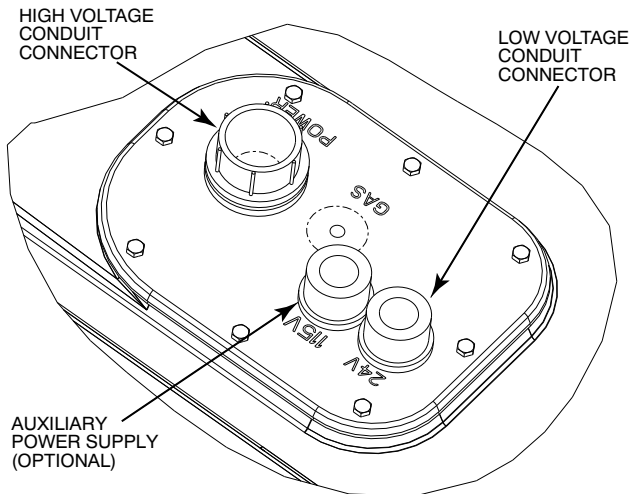

Fig. 30 — Thru-Base Connection Fittings
allows the high-voltage power wires to pass through the basepan. See Fig. 30.
3. Place the gasket over the embossed area in the basepan, aligning the holes in the gasket to the holes in the basepan. See Fig. 30.